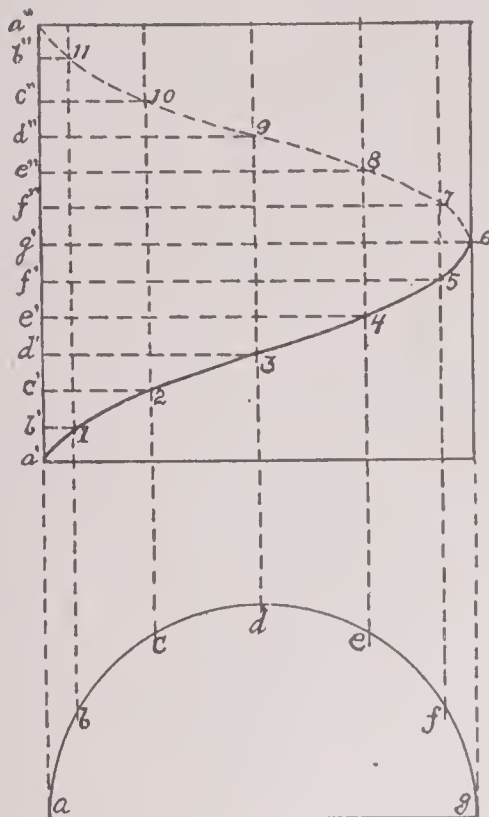

Fig. 27
27. To draw a helix of given diameter and pitch (Fig. 27):